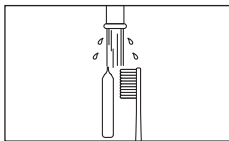

Fig. 14
- 3) After using the wrench, clean the external surfaces of the wrench with a soft bristled toothbrush for each 15 seconds or more. (Z95L / Z99L) (Fig. 14)